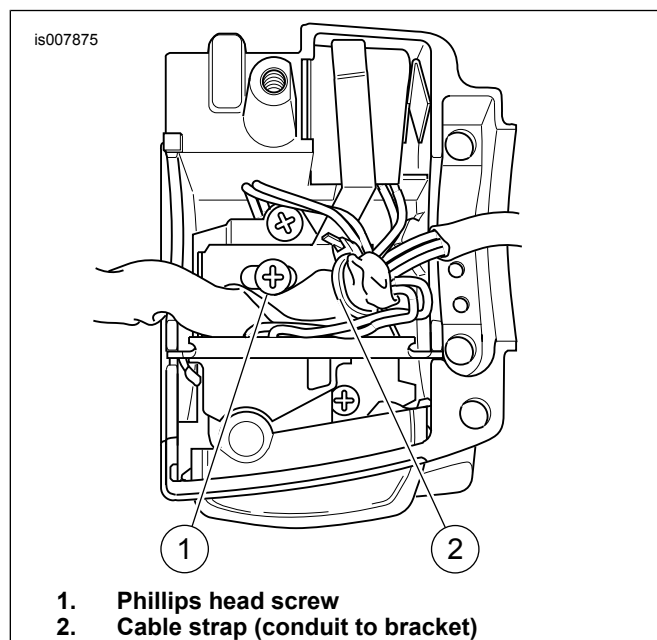

Figure 4. Lower Right Side Handlebar Switch Cable Strap
1. See Figure 4. Carefully cut the cable strap (2) holding the wire conduit to the turn signal switch bracket.
2. Remove Phillips head screw (1) near securing bracket at center of housing.
6. Push down on switch so that it bottoms against housing and wires run in groove (6) at base of cavity. With the concave side facing outward, insert wedge between switch and outboard side of switch housing. Push wedge down until it bottoms against housing. Verify that the plunger is still square in the bore and then place a drop of silicone sealant on upper corner of wedge.
7. To connect the upper bracket to the housing: See Figure 4. Insert the tapered end of a **new** cable strap into the rear, right side, round hole in turn signal switch bracket. Feed the strap back through the front, right side hole. The oblong hole is for the bracket screw. Install turn signal switch into chrome housing. Align the oblong hole in the bracket with the threaded hole in the lower bracket weld nut. Be sure the bracket is fully seated. Tabs on each side of bracket are captured in slots cast into switch housing.